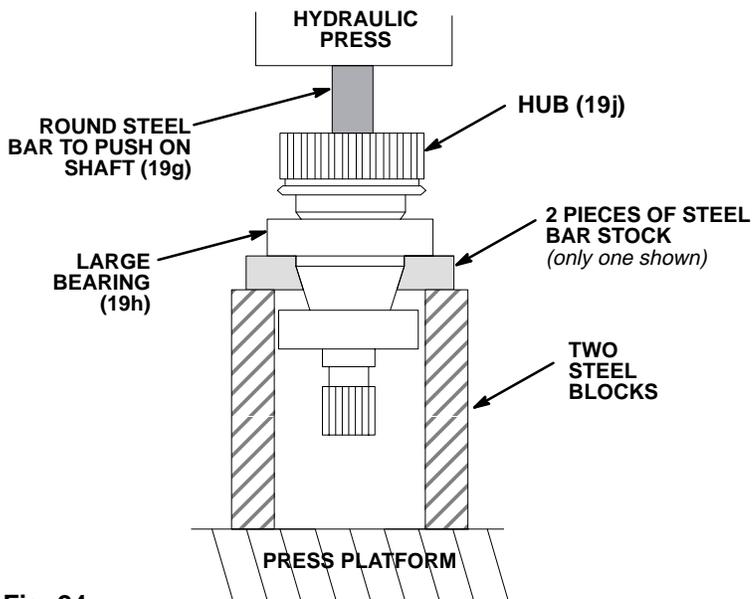

Fig. 24
4. **Using a hydraulic press**, place pieces of steel bar stock on the inner race of the large bearing (19h) and press the shaft through the hub and bearing. See Fig 24. Then turn the shaft over and press out the small bearing (19j).